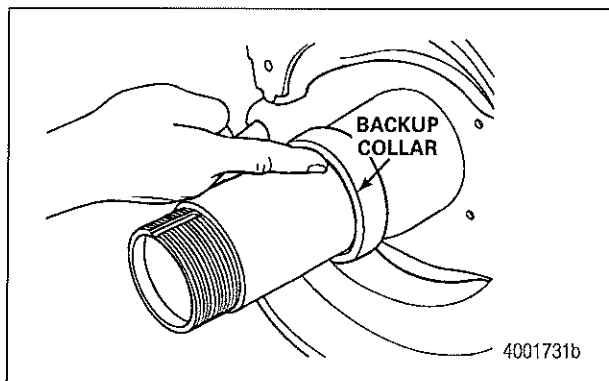

Figure 16
5. Use your finger to verify that the hub side of the axle backup collar is clear of debris. Use a clean rag and solvent to clean, as needed. Figure 16.